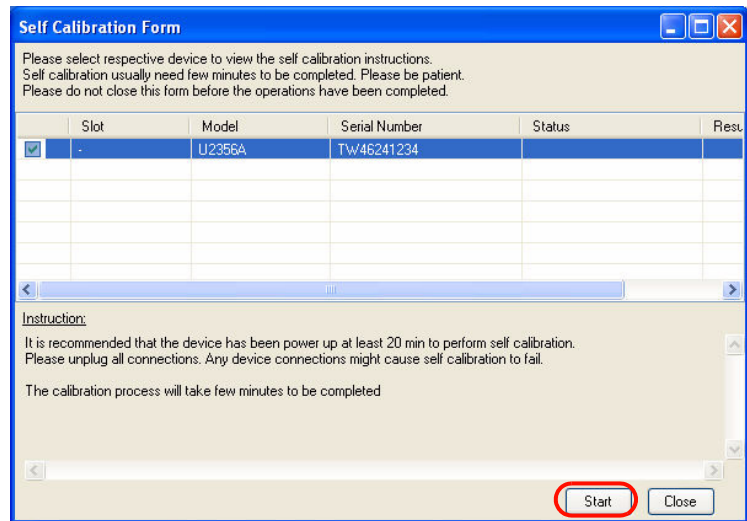

Figure 5-5 Self Calibration Form dialog box in Agilent Measurement Manager with a device being selected
- 5 Select the instrument that you would like to perform self-calibration and the **Start** button will be enabled. Click the **Start** button to proceed. See Figure 5-5.